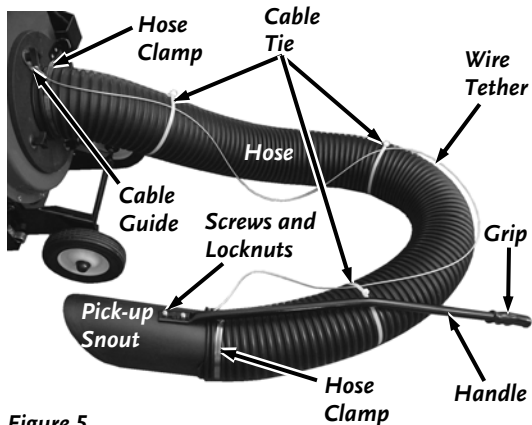

Figure 5
6. Secure one end of the Hose onto the Vacuum Adapter with a Hose Clamp using a 5/16" Wrench (**Figure 5**).